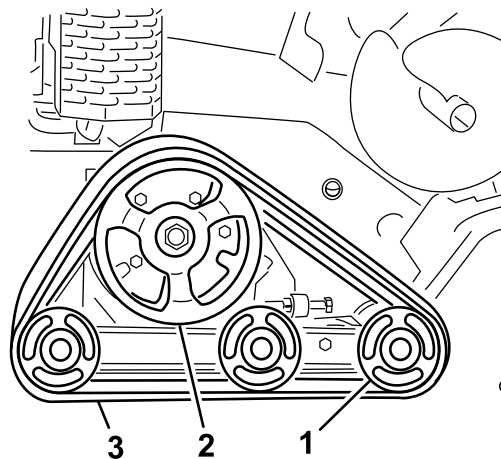

Figure 55
**Important:** Ensure that you fully clean the road wheels and the drive wheel (Figure 55). The road wheels should rotate freely when clean.